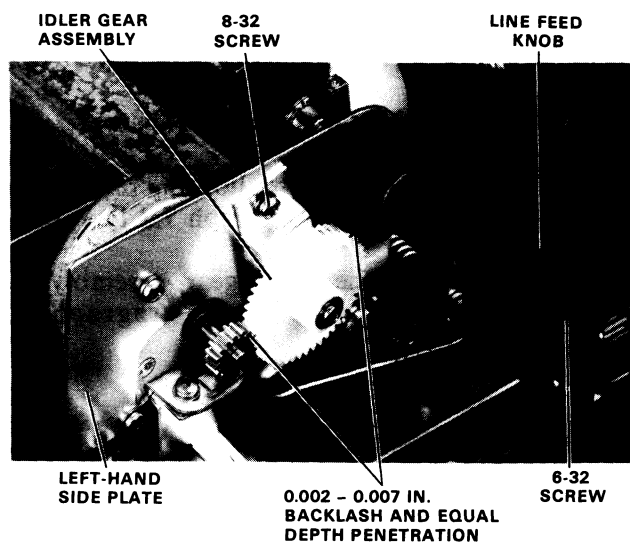

Figure 7-35 Idler Gear Assembly Removal
2. Remove the two (8-32) screws, lockwashers, and flat washers that secure the idler gear assembly to the left-hand side plate (Figure 7-35).
2. With the idler gear in mesh with the stepping motor gear and the tractor drive gear, adjust the idler gear to achieve equal depth penetration and a backlash* of 0.0508 to 0.1778 mm (0.002 to 0.007 inch) between each pair of gears (Figure 7-35). (The idler gear should be free to slide in and out.) Rotate the gears to check the backlash in several places.